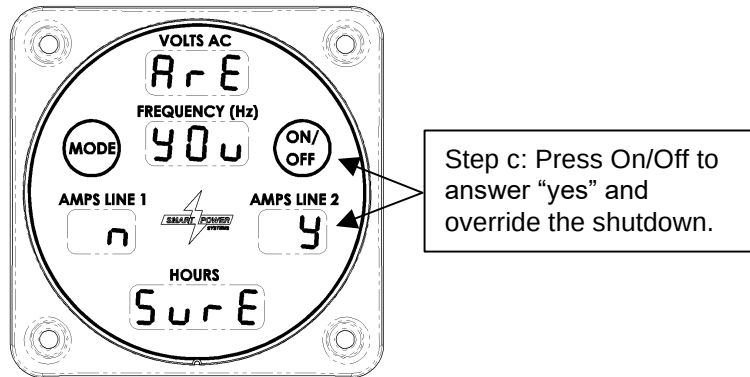

Figure 28 – Voltage Range Fault Override Confirmation
- c. If your answer was “yes” in the previous step, the confirmation screen shown in Figure 28 will be displayed. Again note the *y* and *n* labels below the Mode and On/Off switches. Press the On/Off switch to answer “yes” and override the shutdown. Press Mode to answer “no” and proceed to the oil temperature display.